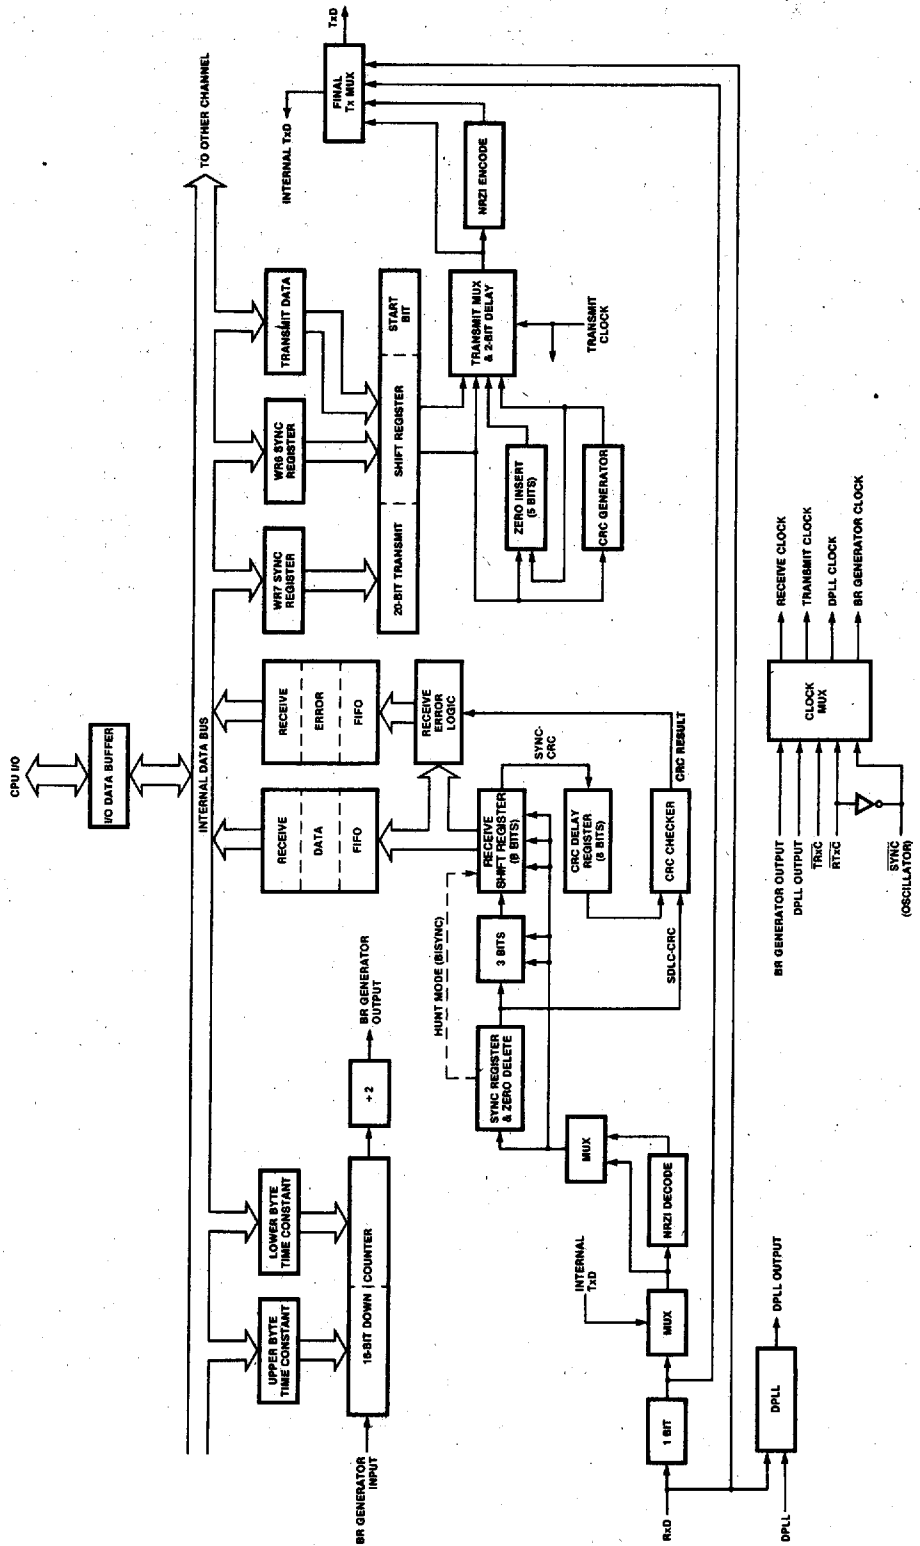

Figure 9. Data Path
**Data Path.** The transmit and receive data path illustrated in Figure 9 is identical for both channels. The receiver has three 8-bit buffer registers in a FIFO arrangement, in addition to the 8-bit receive shift register. This scheme creates additional time for the CPU to service an interrupt at the beginning of a block of high speed data. Incoming data is routed through one of several paths (data or CRC) depending on the selected mode (the character length in Asynchronous modes also determines the data path).